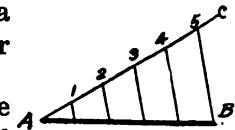

Fig. 52.
**Problem 4.** To divide a given line into any number of equal parts. (Fig. 52).